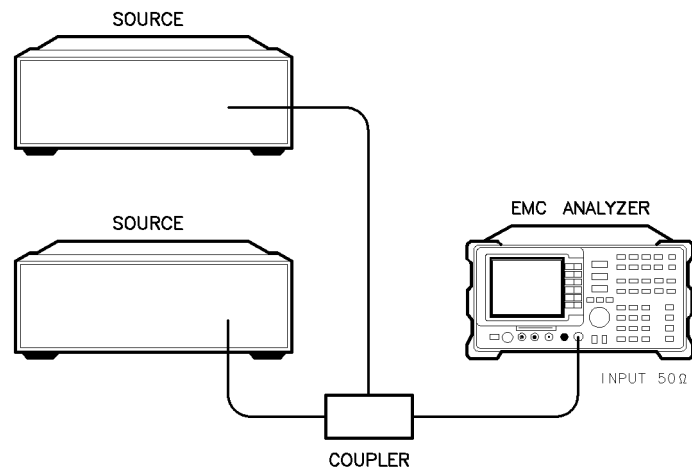

Figure 7-32. Set-up for obtaining two signals.
1. Connect two signal generators to the input of the analyzer as shown in Figure 7-32. Set one signal to 300 MHz, 107 dB μ V (0 dBm) and the other to 305 MHz, 65 dB μ V (–42 dBm). Increase the amplitude of the 305 MHz signal if it is masked by the noise level of the 300 MHz source.